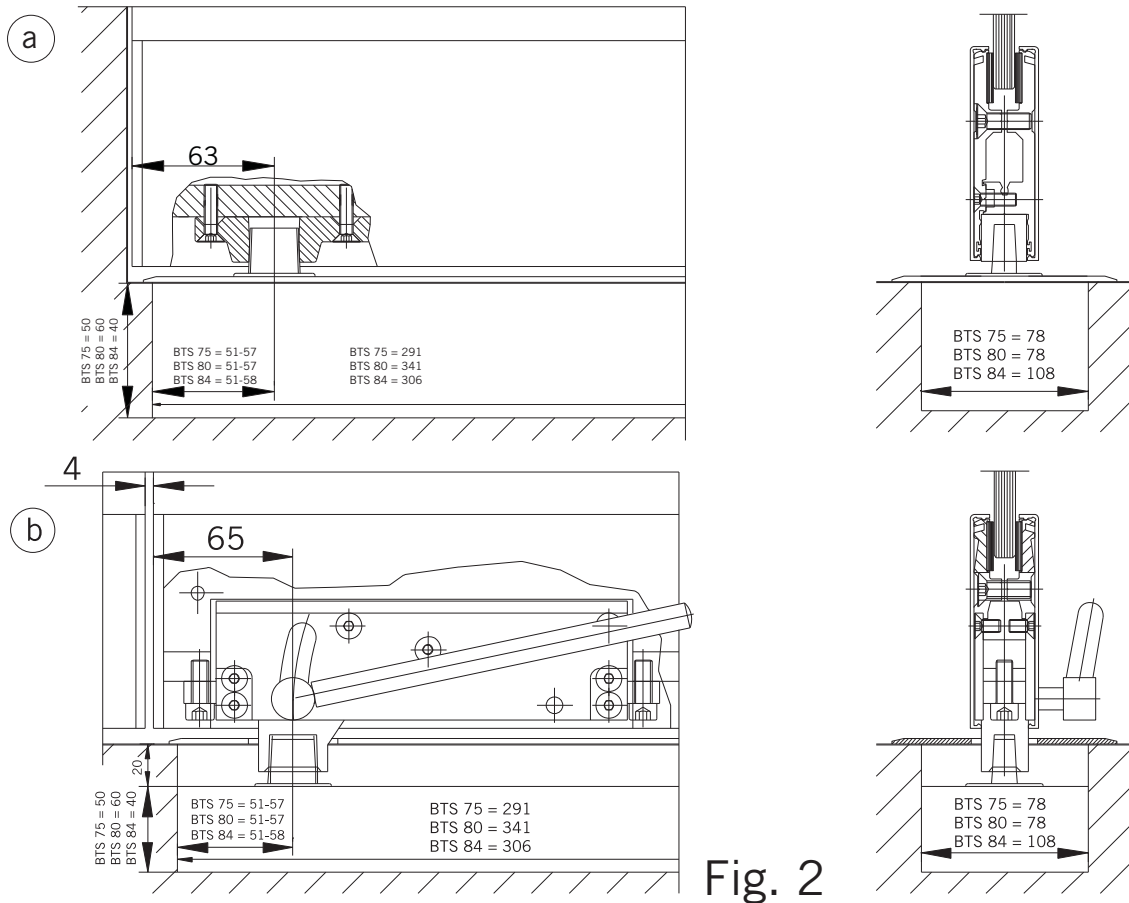

Fig. 2
2. Mounting of floor spring (BTS) (Fig. 2):